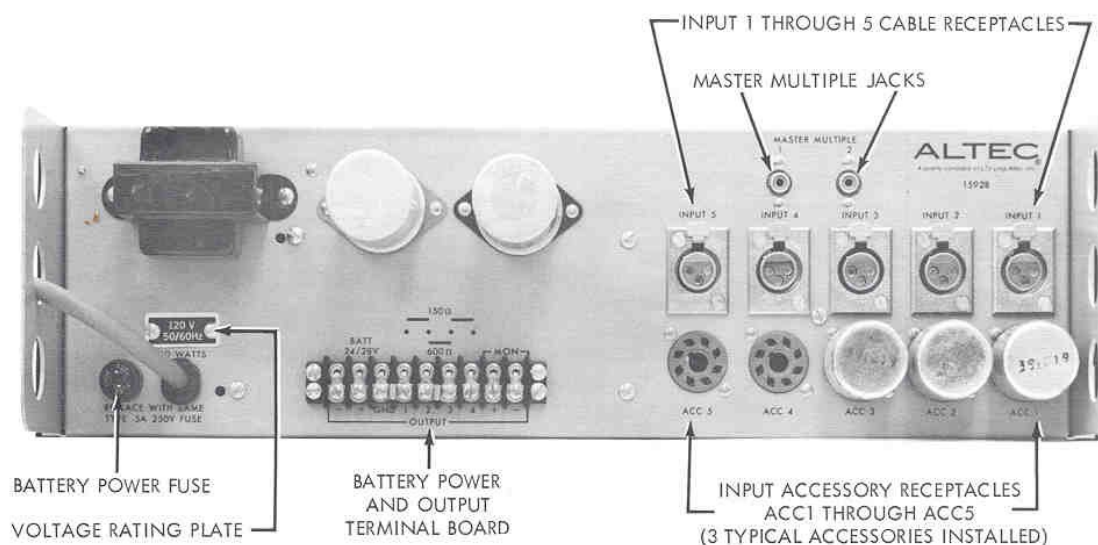
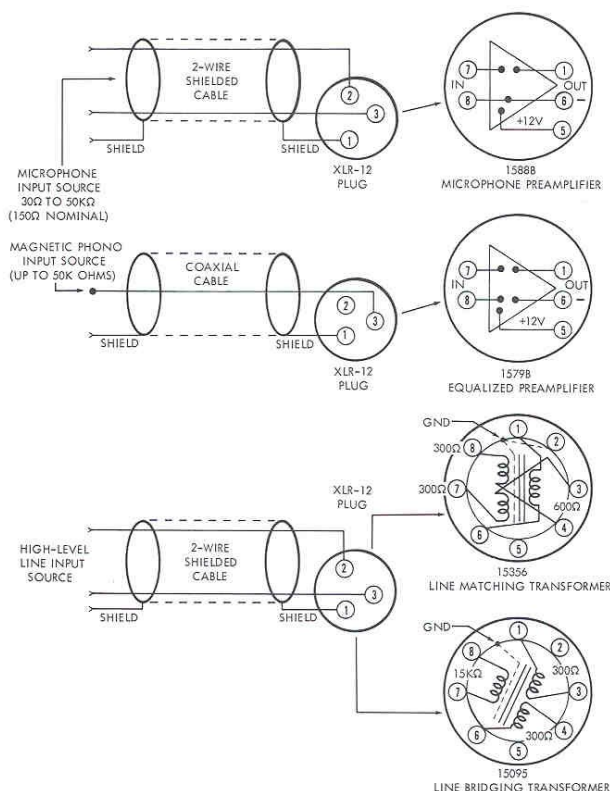
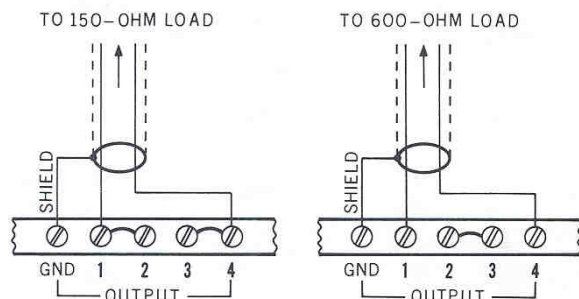

Figure 5. Rear View
Figure 7. Input Wiring for Various Applications
Figure 9. Output Wiring Connections
Equipment supplied for domestic use is provided with the power transformer primary strapped for 120 volts (terminals 1 to 2 and 3 to 4 on TB2). The power input nameplate, adjacent to the power cord on the chassis, is mounted to show the appropriate side specifying the connections (see Figure 5). Verify that line voltage is in accordance with the voltage rating before connecting primary power.
- Step 4. Remove voltage-rating plate from chassis, reverse and reinstall to show 240V rating (see Figure 5).
If desired, the 1592B may be connected to an external 24/28V dc battery with minus (–) as ground. Terminals for the dc power connections are on the OUTPUT terminal board (see Figure 5). If ac power fails, transfer to dc power is instantaneous, automatic and silent.
Inputs to the mixer channels are connected on the chassis at connectors INPUT 1 through INPUT 5 (see Figure 5), with cables terminating in XLR3-12 type plugs. Appropriate internal wiring is shown in Figure 7 for these plugs. Input for any channel may be microphone, magnetic phono, or high-level line sources.
Transformer-isolated output connections are provided at the OUTPUT terminal board on the chassis (see Figure 5) for a load impedance of 150 or 600 ohms. Figure 9 shows wiring connections. Jumpers are connected between terminals 1 and 2, 3 and 4 for 150 ohms and between terminals 2 and 3 for 600 ohms.
Two MASTER MULTIPLE jacks (see Figure 5), independent of all gain controls, enable combining additional amplifiers or mixers into one system. Two or more 1592B Mixer/Amplifiers may be combined as shown in Figure 10A. A single coaxial cable with pin tip phone plugs connects each amplifier. Either MASTER MULTIPLE jack may be used for interconnection.